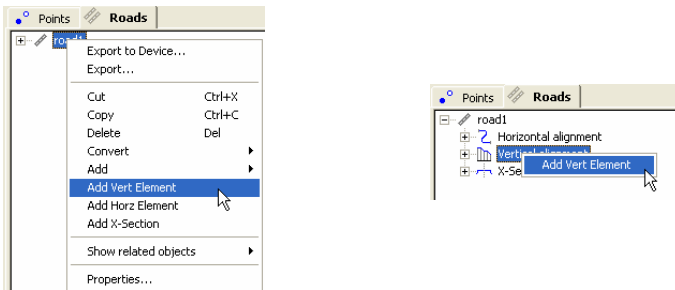

Figure 9-46. Adding Vertical Element Through the Left Panel
- In the left panel, right-click the road or the vertical alignment and click **Add Vert Element** (Figure 9-46).